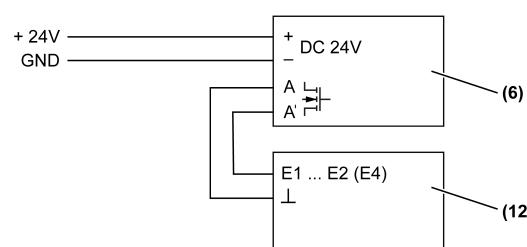

Figure 10: Connection to Room temperature controller with push-button interface 4-gang, Room autostat with push-button interface 4-gang, CO2 multi-sensor
| (Figure 10) | (12) Room temperature controller with push-button interface 4-gang, Art. no.: ..2178TS, Room autostat with push-button interface 4-gang, Art. no.: ..2178 ORTS.., CO2 multi-sensor, Art.no.: CO2..2178.. |